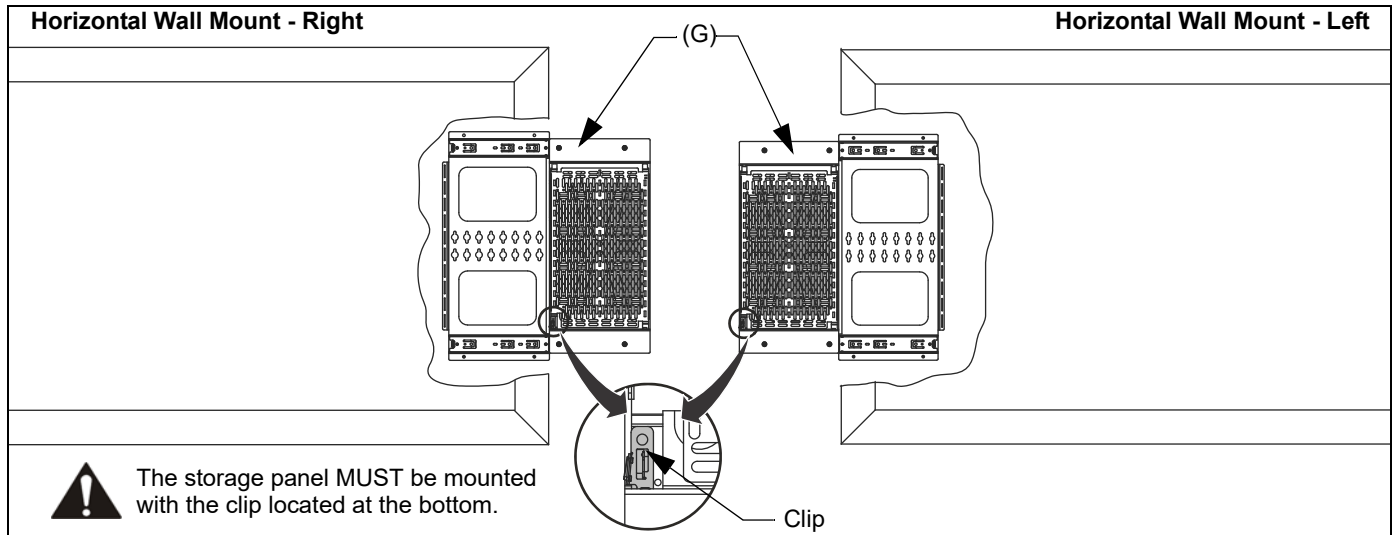
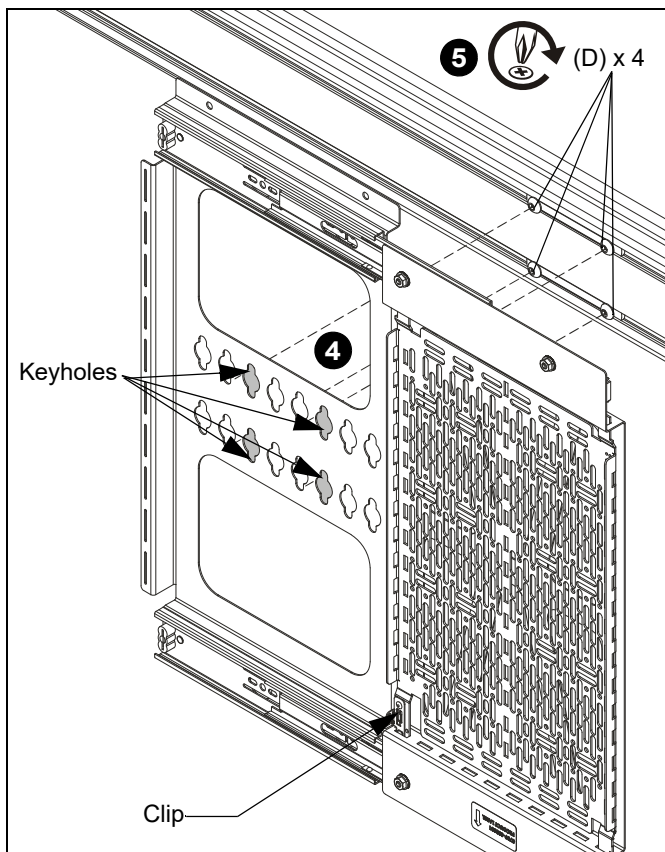

Figure 1
Figure 5
NOTE: The storage panel (G) may be installed directly on the wall in one of two horizontal positions. (See Figure 1)
CAUTION: The storage panel must be mounted with the clip at the bottom. (See Figure 1)
CAUTION: The storage panel must be mounted with the clip at the bottom. (See Figure 1) and (See Figure 5)
4. Hold the storage panel (G) over the four button head screws (D) and lower the storage panel keyholes over the screws. (See Figure 5)